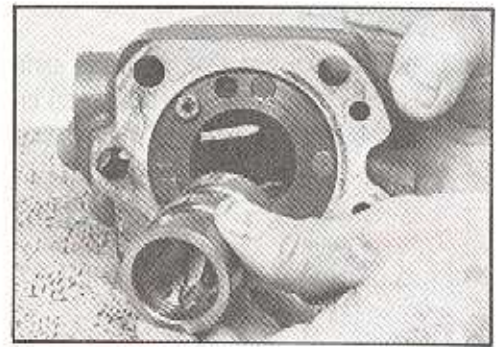

Figure 95
3. Inspect valve spool (18B) and valve body (18A) bore for broken sealing edges. SEE FIGURE 95.